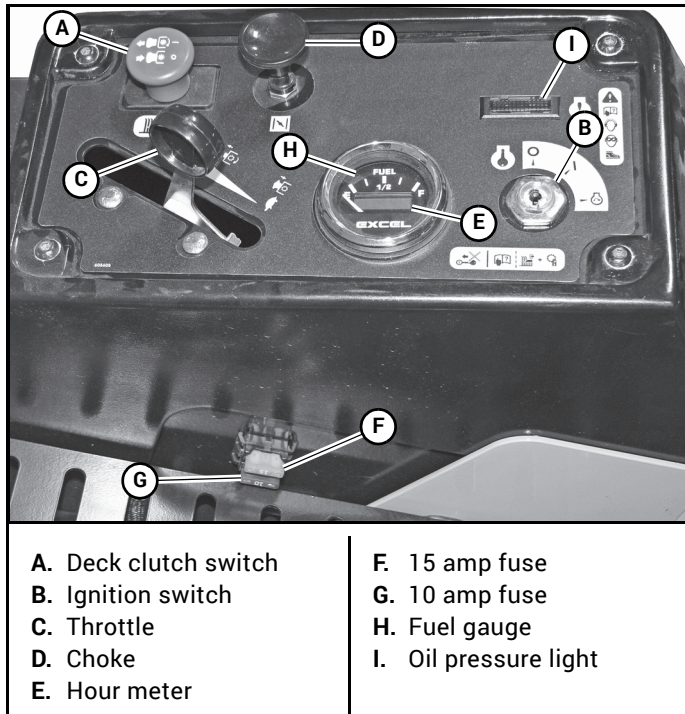

Figure 3-1
- A. **Deck clutch switch (Figure 3-1)** – this switch engages the deck. Pull the switch up to engage and push the switch down to disengage the clutch.
- B. **Ignition switch (Figure 3-1)** – a three position switch: “OFF”, “RUN”, and “START”. With the key inserted, rotate it clockwise to the “START” position; release the key when the engine starts, and the switch will automatically return to the “RUN” position.
- C. **Throttle control (Figure 3-1)** – a cable is linked to the engine throttle for controlling engine speed. Move the lever forward to increase engine rpm, move the lever rearward to decrease engine rpm.
- D. **Choke control (Figure 3-1)** – a cable is linked to manually operate the engine choke. When the lever is in the down position, the choke is in the “OFF” (run) position. When the knob is pulled up, the choke is in the “ON” (start) position. **Do not** operate the machine in the “ON” (start) position.
- E. **Electronic hour meter (Figure 3-1)** – registers 1/10 hour increments up to 9,999.9 total hours. It is connected to the ignition switch. It records the accumulative time while the ignition key is switched to the “RUN” position.
- F. **15 amp fuse (Figure 3-1)** – Deck clutch – 15 amp, blade-type.
- G. **10 amp fuse (Figure 3-1)** – Ignition/Safety system – 10 amp, blade-type.
- H. **Fuel tank gauge (Figure 3-1)** – this gauge shows the fuel level in the fuel tank.
- I. **Oil pressure light (Figure 3-1)** – this light comes on when the ignition switch is placed in the RUN position and stays lit until the engine is running and a safe oil pressure is developed. If the light comes on during operation, shut the engine off immediately and locate and correct the problem.